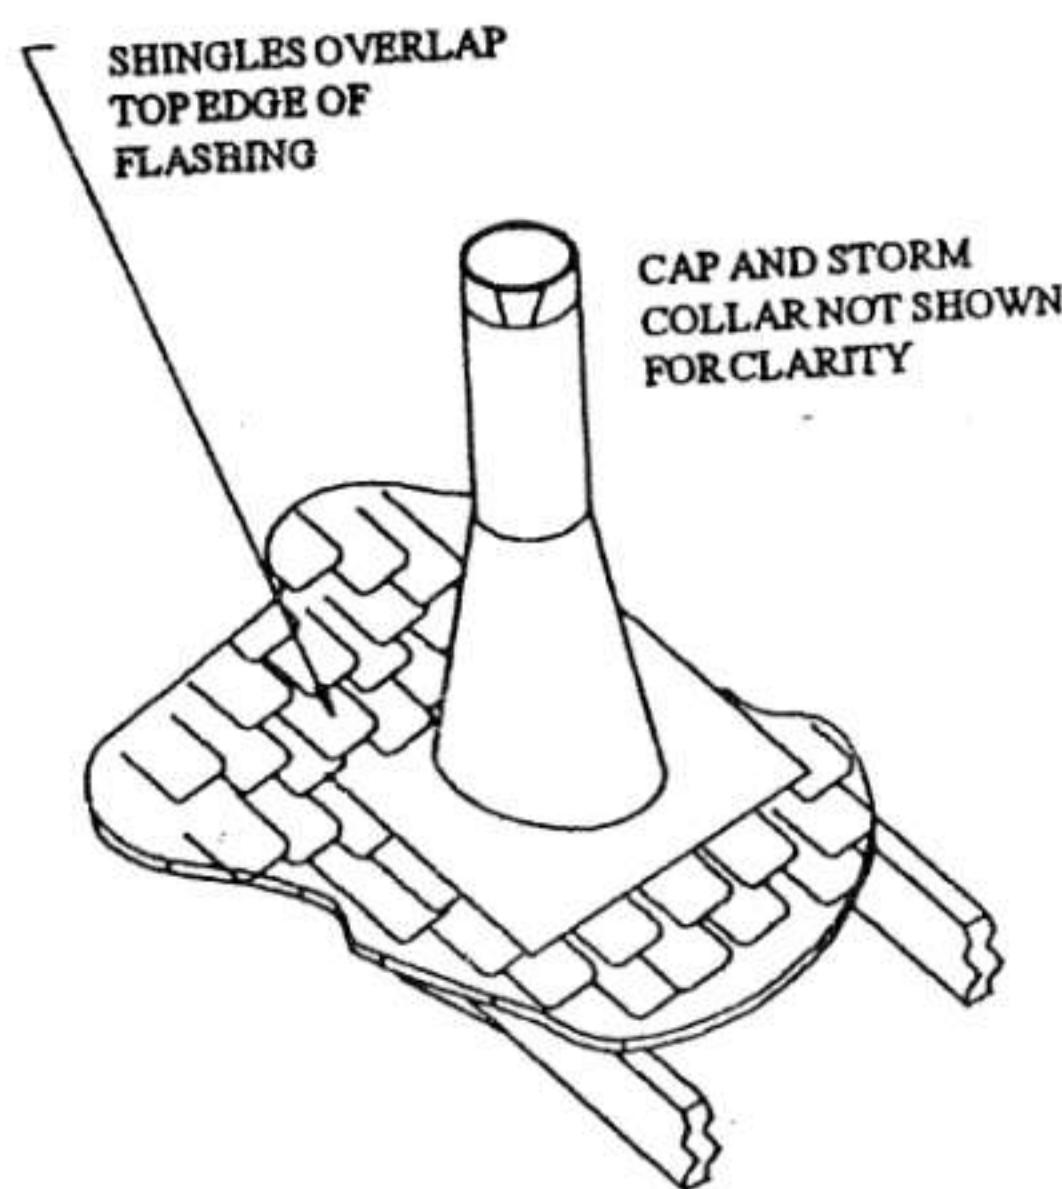

Fig. 9
- 6) Slip the flashing over the pipe section(s) protruding through the roof. Secure the base of the flashing to the roof with roofing nails. Insure the roofing material overlaps the top edge of the flashing as shown in Fig. 9. Verify that you have at least the 1-1/4" minimum clearance to combustibles at the roofline. Slide the stove collar over the pipe section and seal.